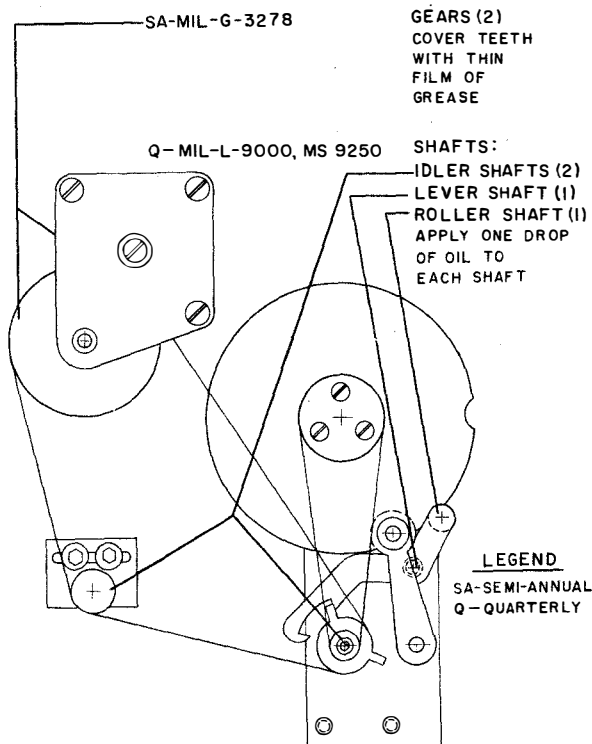

Figure 6-17. RFA, IPA Dial Assembly, Lubrication
(d) IPA DIAL ASSEMBLY. — Figure 6-17 shows the lubrication points on the IPA dial assembly.
- (e) Figure 6-17
- (f) Figure 6-17